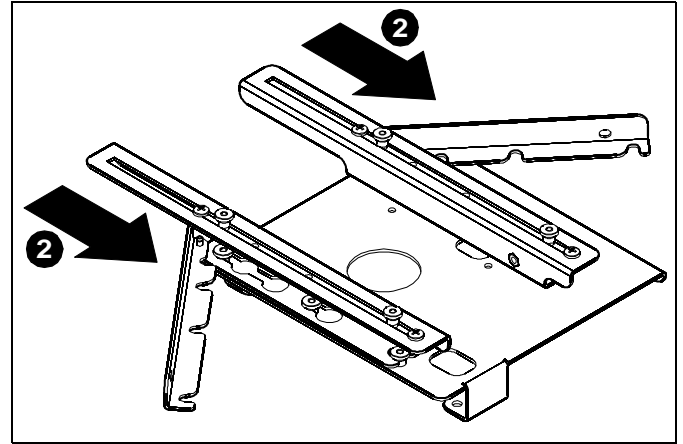

Figure 3
2. Slide LSB101 brackets so that thumb nuts on SLM interface bracket rest in the narrow end of key slots. (See Figure 3)